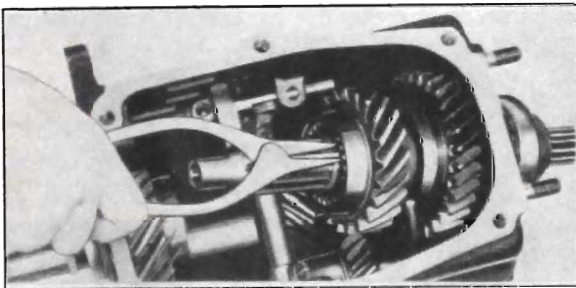

Fig. 7-21. Removal of Second Speed Gear
7. Remove second speed gear snap ring, slide assembly forward and remove low speed gear stop ring. See Fig. 7-21.